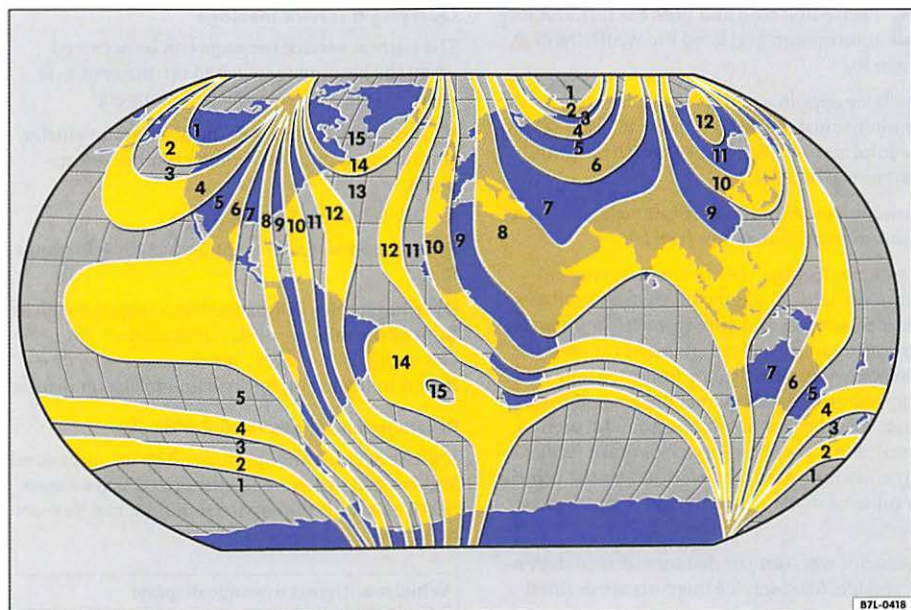

Fig. 7 Compass zones
- Select the compass zone according to the current location ⇒ fig. 7.